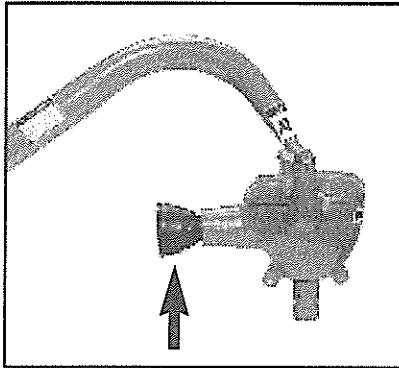

FIG. 5 - INPUT PINION GUARD
**STEP 7:** Slide the input pinion guard (PN 7428H) over the gearbox pinion shaft. (Refer to Figure 5.) Slide the smaller end of the driveline over the gearbox splines and secure by driving roll pin (PN 7570) through the hole in the input pinion guard and into the end yoke and pinion.